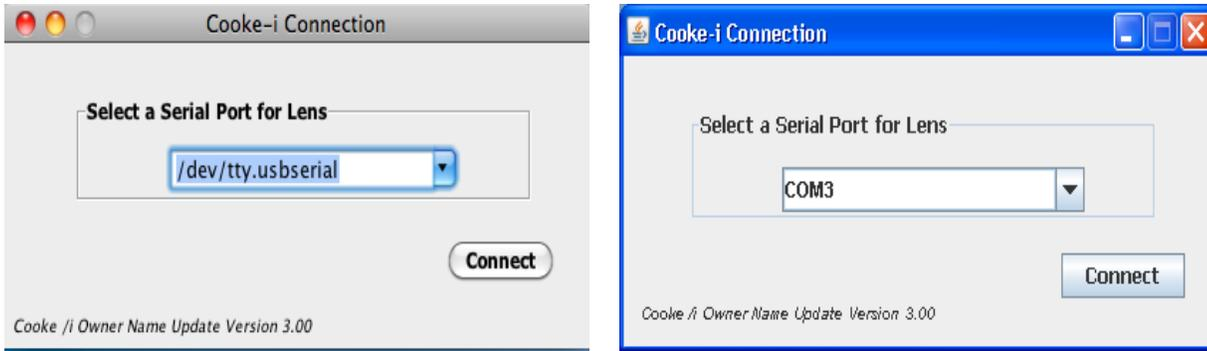

Figure 1 Select Serial Port on MAC and on Windows
- For MAC OS X: Double click *Cooke Owner Update*, the screen as shown in Figure 1 appears. It lists all of the available serial ports on the machine. Select one which the lens is connected to.